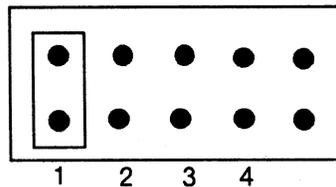

Figure 7-1. Selecting an Installed 85MB Disk Drive as Drive 0
1. Locate the jumper select card on the lower-left, rear side of the disk drive already installed (CDC). To make this drive 0 (see Figures 7-1 and 7-3), jumper position 1.